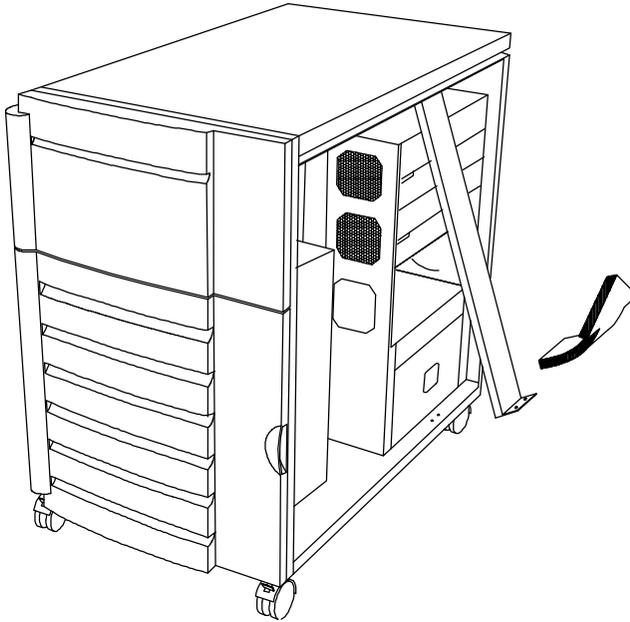

Figure B-11 Pulling Out the Metal Bar
3. Pull-out the metal bar from the lower end and unhook the upper end from the housing roof. See Figure B-11.